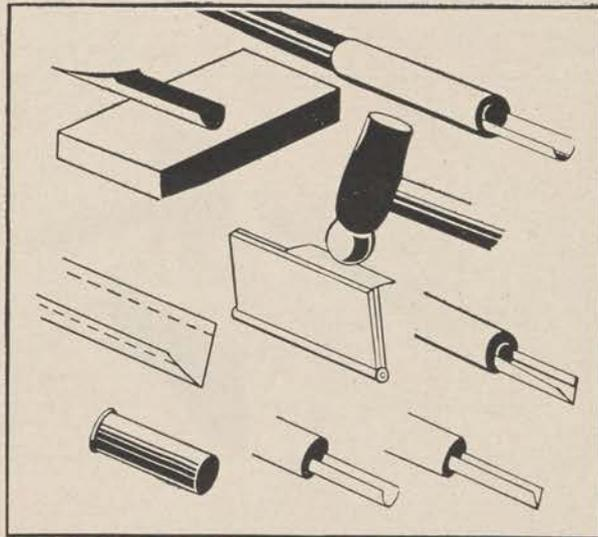

Figure 5.
c. Gouges for woodcarving and cutting linoleum may be fashioned in several ways (fig. 5). Pen points may be reversed with their tips inserted in the holders and the other ends honed until sharp. Or you may take a piece of ordinary tin, fold over the edges to strengthen them, and form into the shape